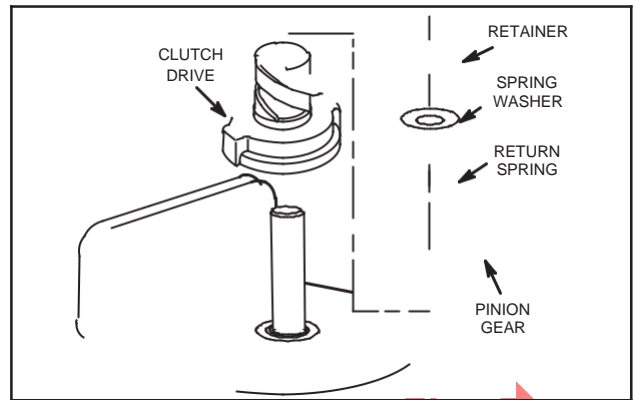

Fig. 9 – Assemble Starter Drive
1. Assemble clutch drive to starter shaft and rotate clutch until it drops into place, Fig. 9.